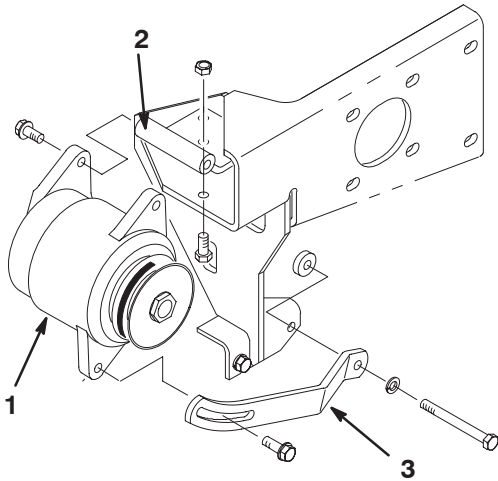

Figure 5
13. Mount the alternator mounting bracket to the fan support with (3) 5/16-18 x 1" lg. capscrews and locknuts (Fig. 5).
14. Mount the alternator to the alternator mounting bracket with the (2) bolts and washers previously removed (Fig. 5).
15. Mount the alternator strap to the fan support and to the engine with a M8 x 80mm capscrew and spacer (Fig. 5). The spacer is to be positioned between the fan support and the engine.
16. Loosely mount the other end of the alternator strap to the alternator with the bolt and washer previously removed (Fig. 5).